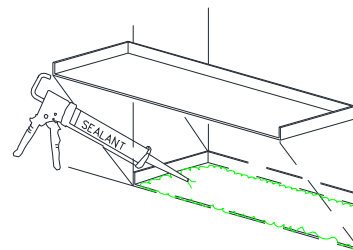

Figure 6:
- Secure the sillpan to the floor with glue. Position sillpan as necessary to allow for proper installation of frame assembly (Figure 6).
5. Apply a bead of sealant that is compatible with the insulated glass seal to all four exterior corners as shown in Figure 6, Detail "A".